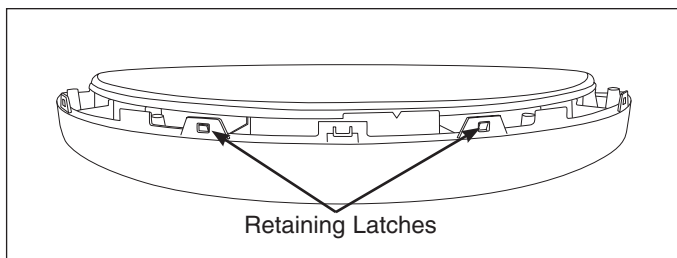

Figure 4-10.
4. Release the retaining latches around the door assembly that secure the outer door glass to the door assembly. (See Figure 4-10)